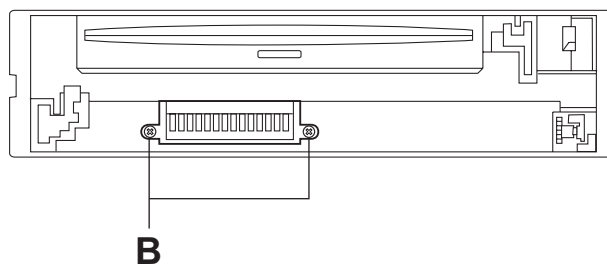

Fig.3
- (1) Remove the screw **A** on the both sides of the main body.
- (2) Remove the two screws **B** on the front side of the main body.
- (3) Release the two joints **a** and two joints **b** on both sides of the main body using a screwdriver, and remove the front chassis assembly forward.
- (4) Release the two joints **c** on the bottom side of the main body and remove the front chassis assembly in the direction of the arrow.(see Figs.3)
2.2.2 Removing the connector board (See Figs.3 to 5)